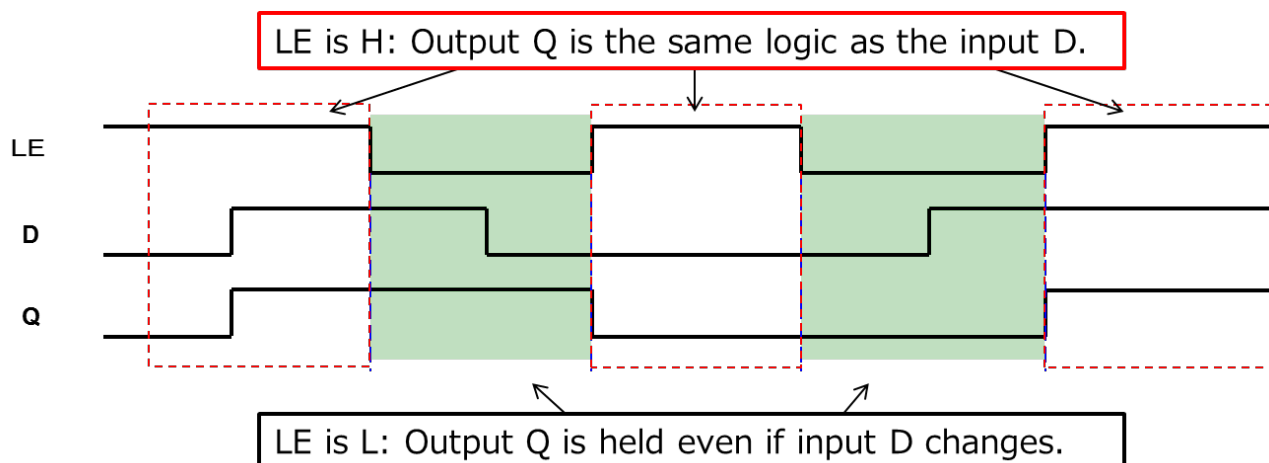

Figure 2.27 Timing chart and output image
For a D-latch product composed of an input signal (D), a latch enable signal (LE), and an output (Q), the previous output (Q) is held when the latch enable signal (LE) is L, but the same logic as the input logic is output when the latch enable signal (LE) is H. Shown in Figure 2.27 is a timing chart.